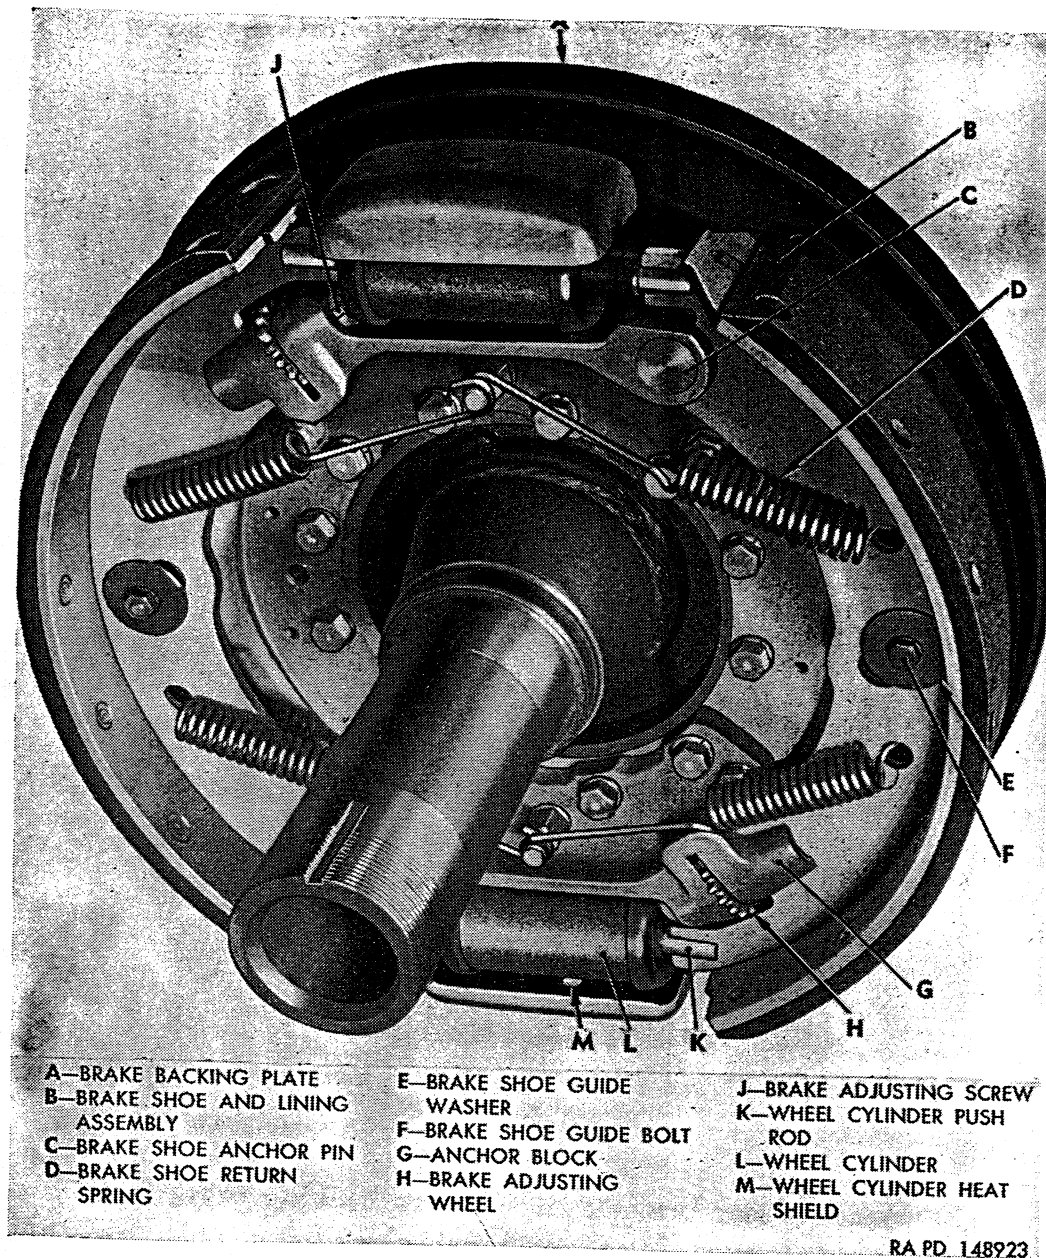

Figure 246. Brake shoes and wheel cylinders installed (rear shown).
*Note.* The key letters noted in parentheses are in figure 246, except where otherwise indicated.
*a. Description.* All brake shoes on vehicle are identical. Two brake shoes are mounted on each backing plate in conjunction with two anchor blocks and two wheel cylinders (L). Anchor blocks serve as shoe
*a. General.* Two double-end wheel cylinders (L, fig. 246) are mounted on each backing plate between ends of brake shoes. Bleeder valves and hydraulic inlet openings extend through backing plate to inner side. Each wheel cylinder is attached to backing plate by two cap screws and lockwashers. Push rods transmit movement of wheel cylinder pistons to brake shoes. In each wheel cylinder, the piston which operates the toe end of the brake shoe has a longer stroke than the piston in the other end to compensate for the increased piston travel made necessary when brakes are adjusted to compensate for normal lining wear. Rubber boot at each end of cylinder keeps out water and dirt, and a heat shield at each cylinder deflects heat, created during brake application, away from cylinder.
- (1) Remove brake shoes (par. 239b).
- (2) At inner side of backing plate, remove bolt attaching hydraulic connecting line fitting to wheel cylinder.
- (3) Remove two cap screws and lockwashers attaching wheel cylinder to backing plate. Remove wheel cylinder and heat shield from backing plate; then remove heat shield from wheel cylinder.